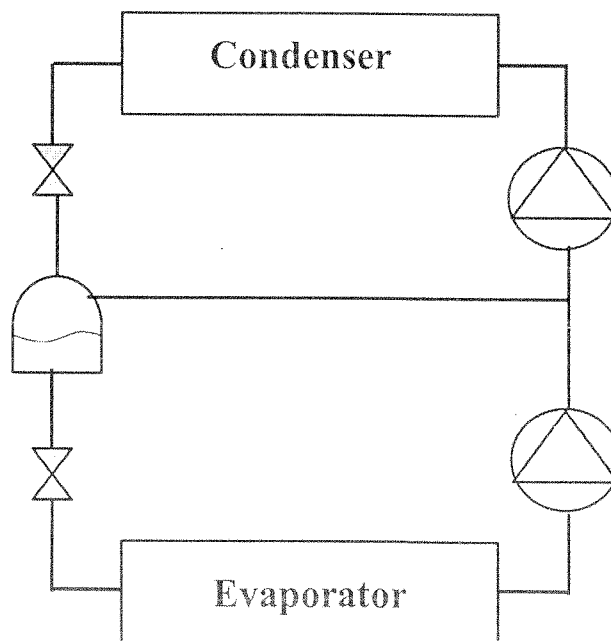

Figure Q2
- b) Figure Q2 shows a 1760 kW two-stage compound vapor compression system with a flash chamber that uses HCFC-22 (R22) as the refrigerant. Evaporating and condensing temperatures are 1.7°C and 35°C respectively. Refrigerant vapour enters the low-stage compressor at dry saturated state, and the subcooled liquid refrigerant leaves the condenser at a temperature of 32.2°C . Both compression processes are assumed to be isentropic. Determine,